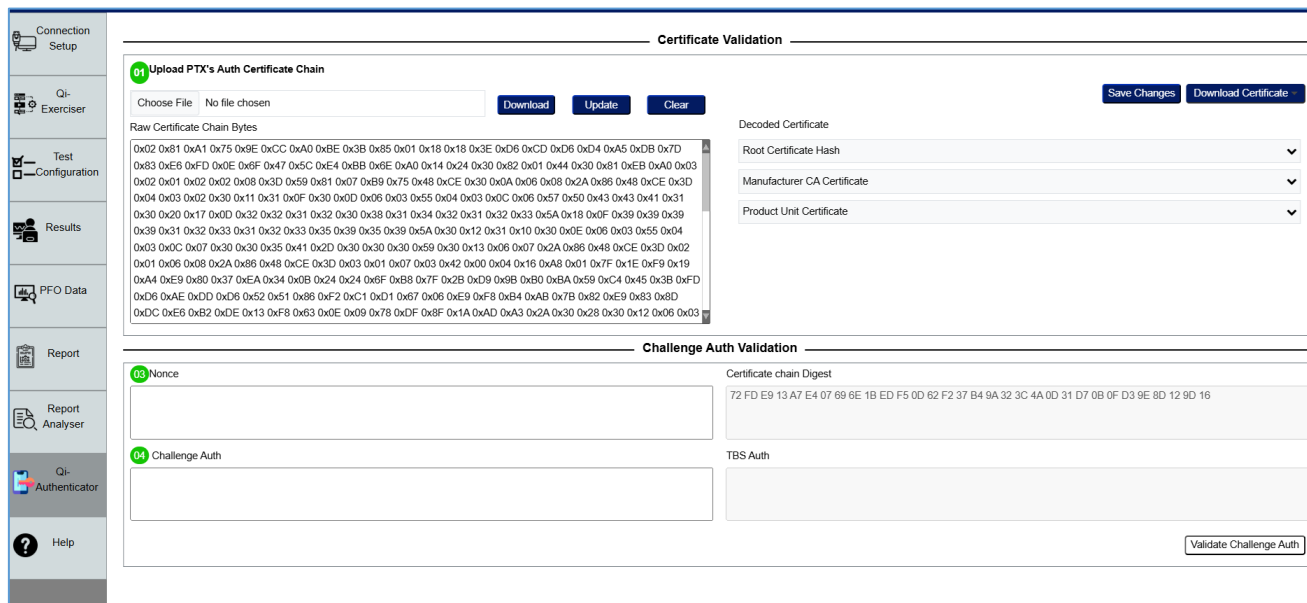

FIGURE 8.124: QI-AUTHENTICATOR SCREEN
- The GRL-C3-MP-TPR application will redirect to the Qi-Authenticator screen as shown in Figure 8.124 below.